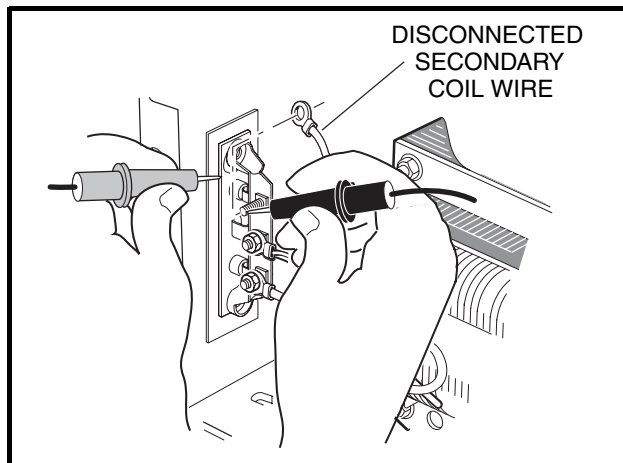

Figure 6-10 Diode Test
4. Disconnect one transformer secondary coil wire from the diode terminal **(Figure 6-10, Page 6-15).**
5. Using a low voltage continuity tester or multimeter set to the diode test function, connect the red (+) test probe to the diode mounting plate and the black (–) test probe to a diode terminal and note the reading **(Figure 6-10, Page 6-15).**